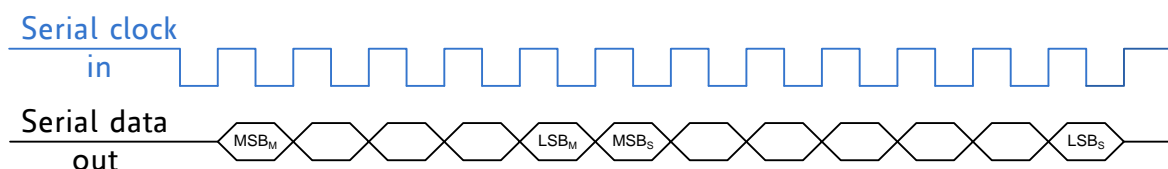

Figure 17.1 Example for SSI output configuration
- Set the number of the single- and multiturn data with *SINGLE\_TURN\_RES\_OUT* resp. *MULTI\_TURN\_RES\_OUT*. The real number of data bits is the given parameter setting + 1 (see Figure 17.1).